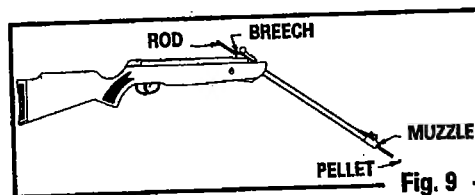

Fig. 9
- If it is jammed, insert a cleaning rod into the breech and push the jammed pellet out of the muzzle. Don't try to reuse that pellet (Fig. 9)